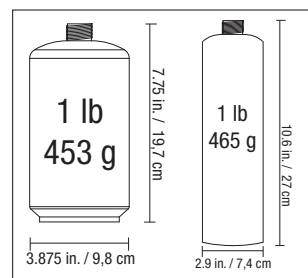

Figure 2
1. Make sure control knobs are in the “● OFF” position (Figure 2).
2. Make sure control knobs are in the “● OFF” position (Figure 2).
3. Make sure control knobs are in the “● OFF” position (Figure 2).
1. Turn control knobs to the “● OFF” position (Figure 2).